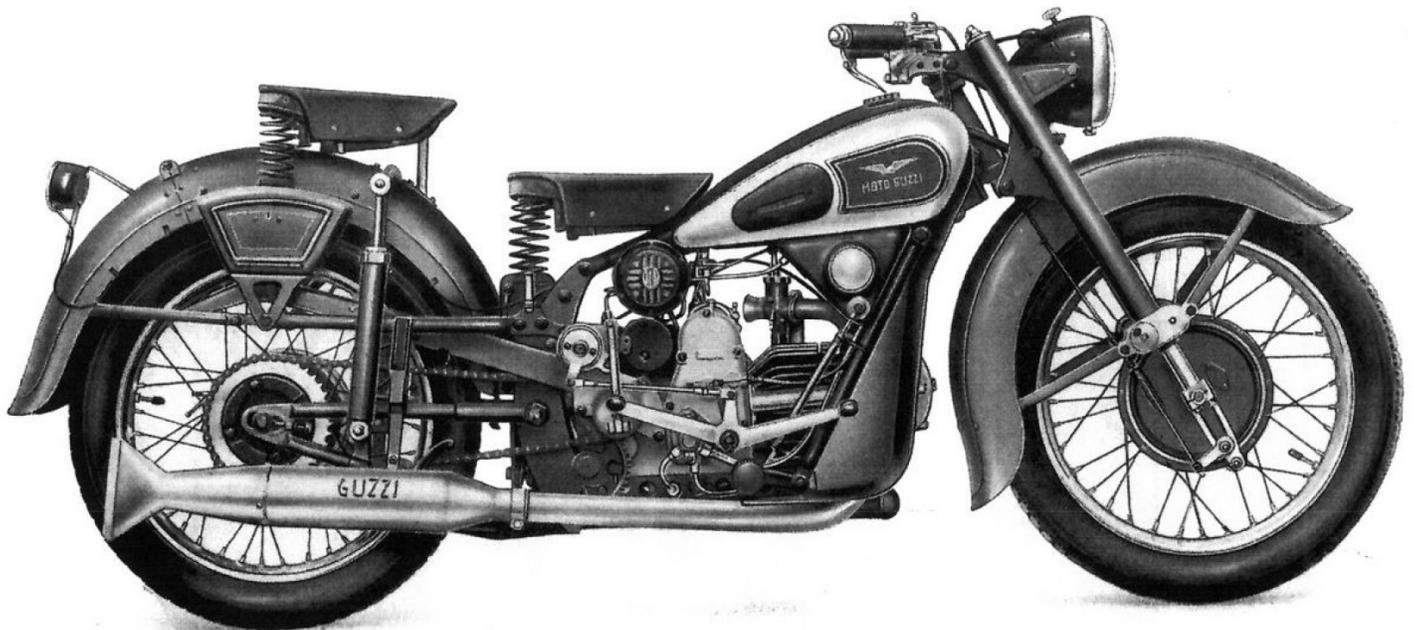

Fig. 4 - Motorcycle GTV two seater – timing side
- Figure 4- G.T.V. Motorcycle two-seat version (timing cover side)